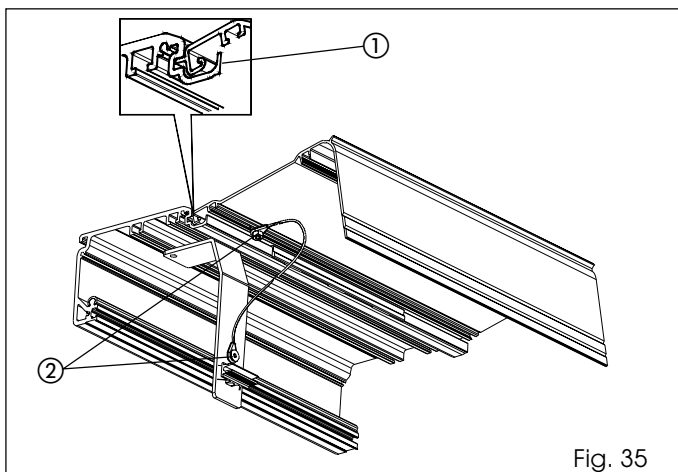

Fig. 35
- To keep the housing open, lift it and push it toward the profile until the metal projection fits into the profile seat (fig. 35 ref. ①).
- Fasten the 'parachute' cables on the housing and on the housing fixing brackets as shown in fig. 35 ref. ②).